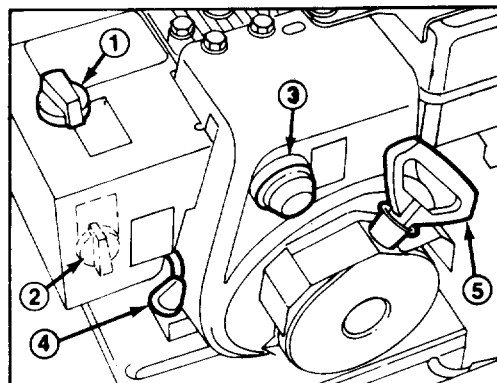

Figure 14
**Choke** (Fig. 14) — Choke for engine is located on heater box. Rotate choke to FULL choke position to start a cold engine. As engine warms up, move choke gradually to OFF.
**Primer** (Fig. 14) — Press primer to pump small amount of gasoline into engine for improved cold weather starting.
**Fuel Shut-Off Valve** (Fig. 14) — Valve is located under fuel tank. Close valve to stop fuel flow from fuel tank and open valve to allow fuel to flow to the carburetor. Close valve when snowthrower is not used.
**Discharge Chute Control** (Fig. 14) — Rotate discharge chute control clockwise to move discharge chute to the left and counterclockwise to move chute to the right.
**Recoil Starter** (Fig. 14) — Recoil starter is on back side of engine. Pull recoil starter to start engine.
2. Move throttle to FAST (Fig. 14).
4. Rotate choke to full choke position (Fig. 14).
6. Depress primer (Fig. 14) five times.
7. Grasp recoil starter handle (Fig. 14) and pull it out slowly until positive engagement results; then pull vigorously to start the engine. Keep firm grip on starter handle and return the rope slowly.
8. After engine starts, immediately rotate choke (Fig. 14) to 3/4 position. As engine warms up, rotate choke to 1/2 position; then to OFF position. If engine falters, return choke to 1/2 position. When engine warms sufficiently, rotate choke to OFF position.
2. Move throttle to slow and rotate ignition key to OFF (Fig. 14).